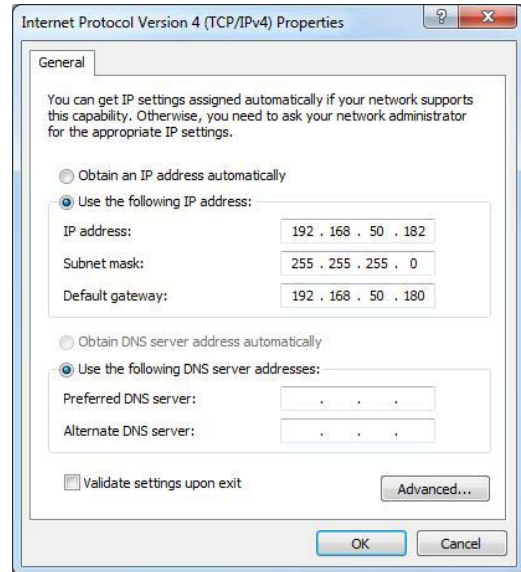

Figure 49: TCP/IPv4 settings
- Select "Use the following IP address:" and enter the following values (see Figure 49):